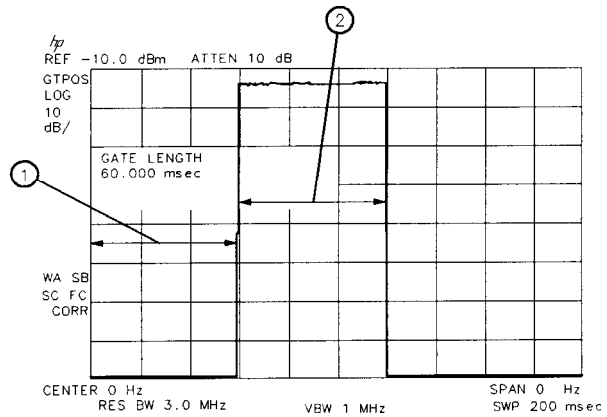

Figure 5-30. Gate On
3. Press **Previous** Menu, GATE ON OFF (so that ON is underlined). See Figure 5-30.
Item	Description of Items in Figure 5-30